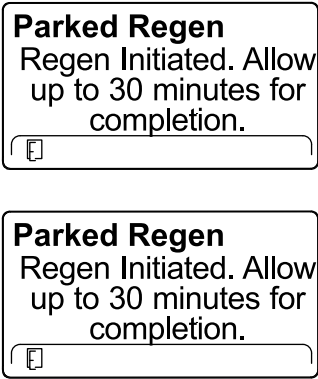

Figure 54
- The InfoCenter displays the time to complete message (Figure 54).